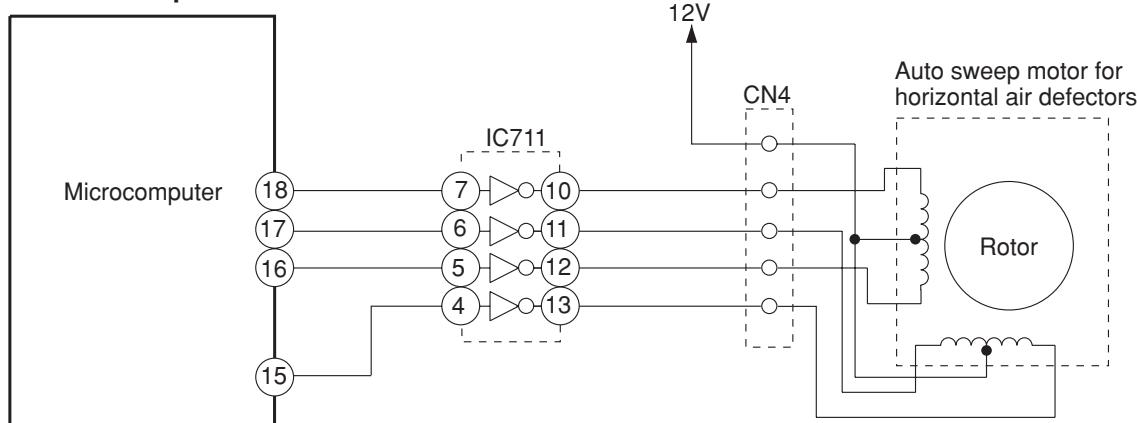
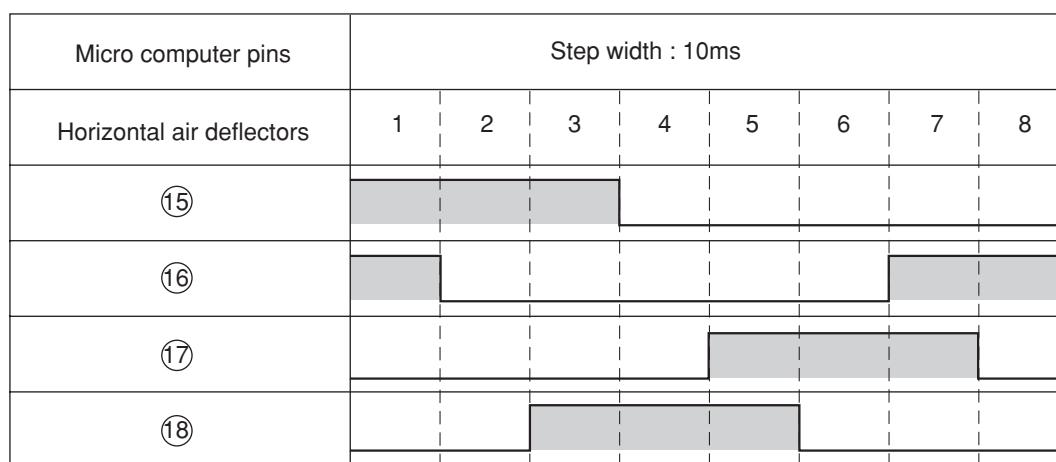

Fig.4-1
Fig.4-2 Microcomputer Output Signals
Fig. 4-1 shows the Auto sweep motor drive circuit; the signals shown in Fig.4-2 are output from pin ⑯~⑰ of microcomputer.
As the microcomputer's outputs change as shown in Fig.4-2, the coils of the auto sweep motor is excited to turn the rotor. Table 4-1 shows the rotation angle of horizontal air deflectors.